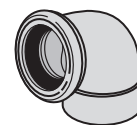

Fig.36 128.4.90 WC Connector
**128.4.90 WC Connector** (single socket) (Fig.36)